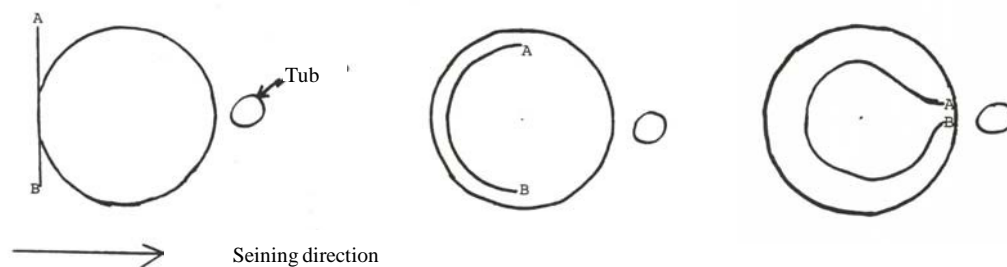

Figure 2. Pond seining.
1. Fill two tubs with approximately 40 litres (L) of fresh water and place them on the side of the pond opposite of where you will commence seining. Using two people (A and B) each holding one end of the seine, slowly begin walking towards the tubs (Figure 2).